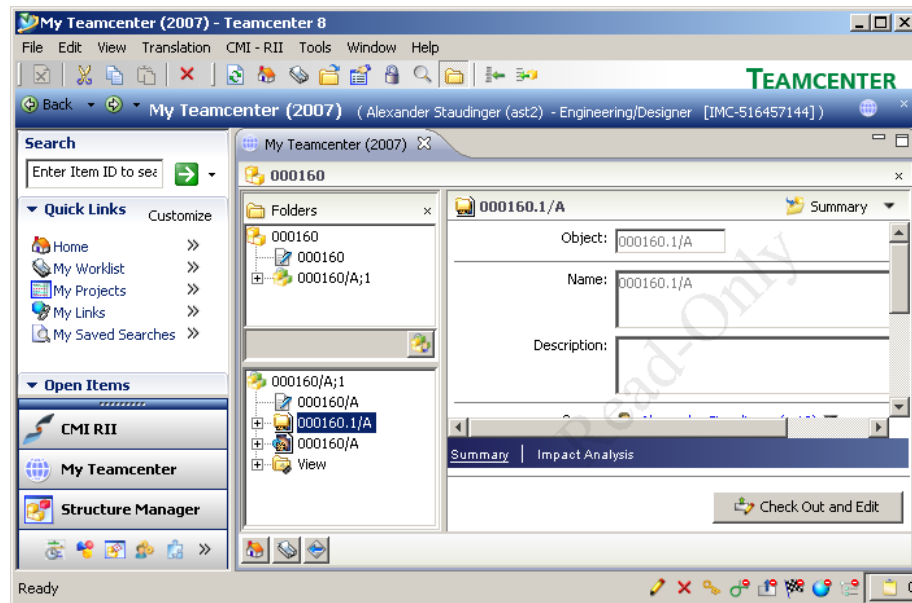

Figure 105: CMIArchive item in Teamcenter
CMI RII has created a new CMI2Archive dataset in Teamcenter. The dataset is linked with the item 000160. Figure 105 shows the expanded CMI2Archive dataset in the My Teamcenter application.